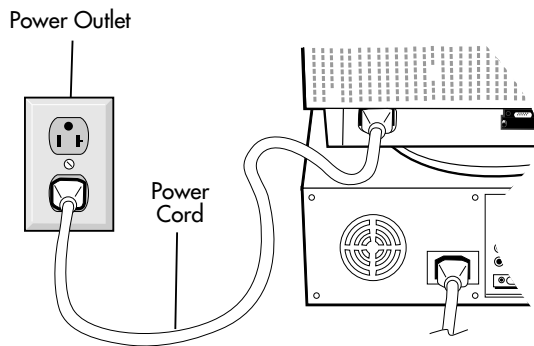

Figure C.1
5. Connect one end of the power cord to the MultiSync E900+ monitor and the other end to the power outlet (Figure C.1).